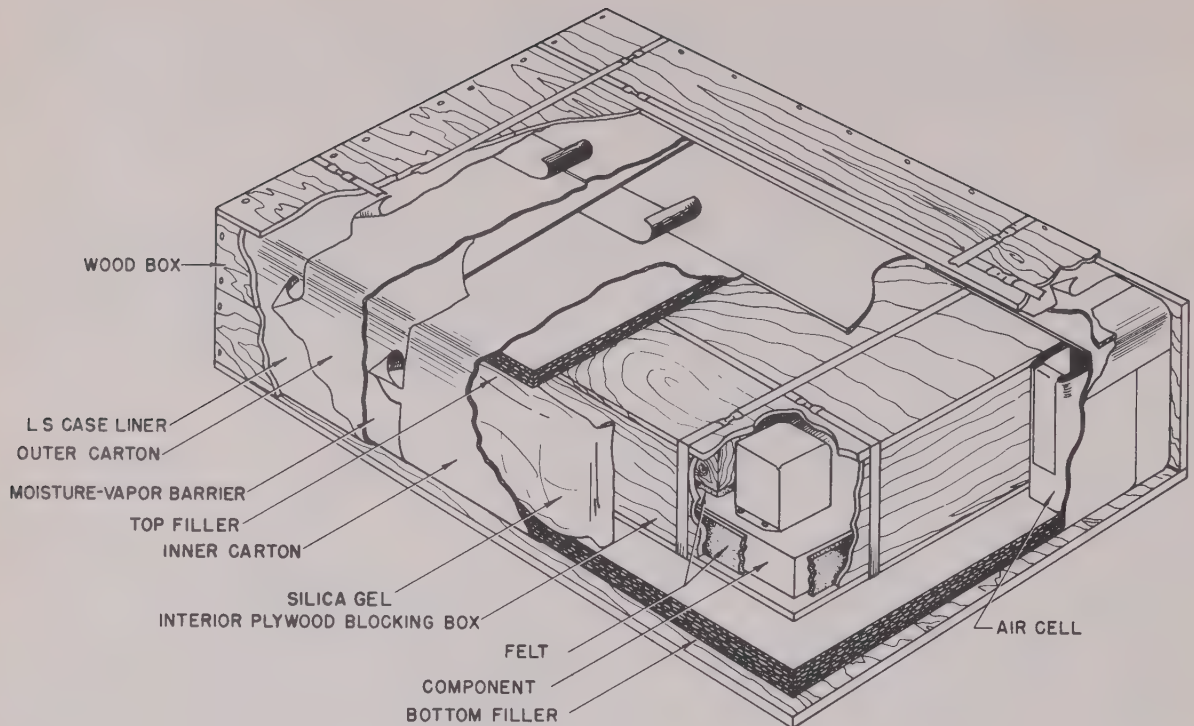

Figure 18. Typical component packed for export shipment.
(5) Adequate lighting for day and night operation must be provided. Position the equipment so that the panel designations and meters may be read easily by the operating personnel. Artificial lighting should be arranged so that the light falls directly upon the instruments and control panels. A portable drop lamp and extension cord are convenient assets for the operating and maintenance personnel.
a. General. Equipment may be shipped in oversea packing cases or domestic packing cases (fig. 18). When new equipment is received, select a location where the equipment may be unpacked without exposure to the elements and